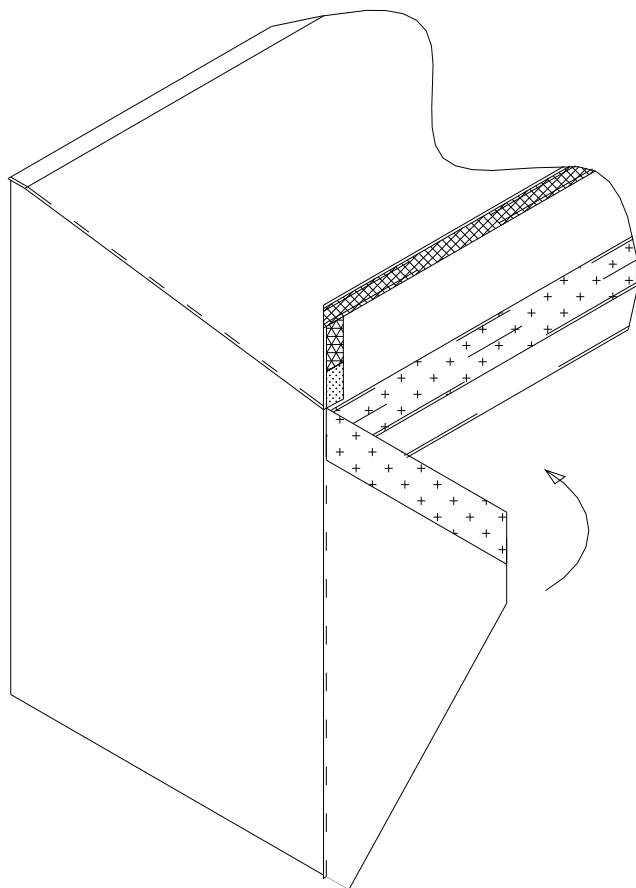

FIGURE 14
13. Finally, temporarily wrap the end caps front flaps onto the front bar velcro. (See Figure 14)